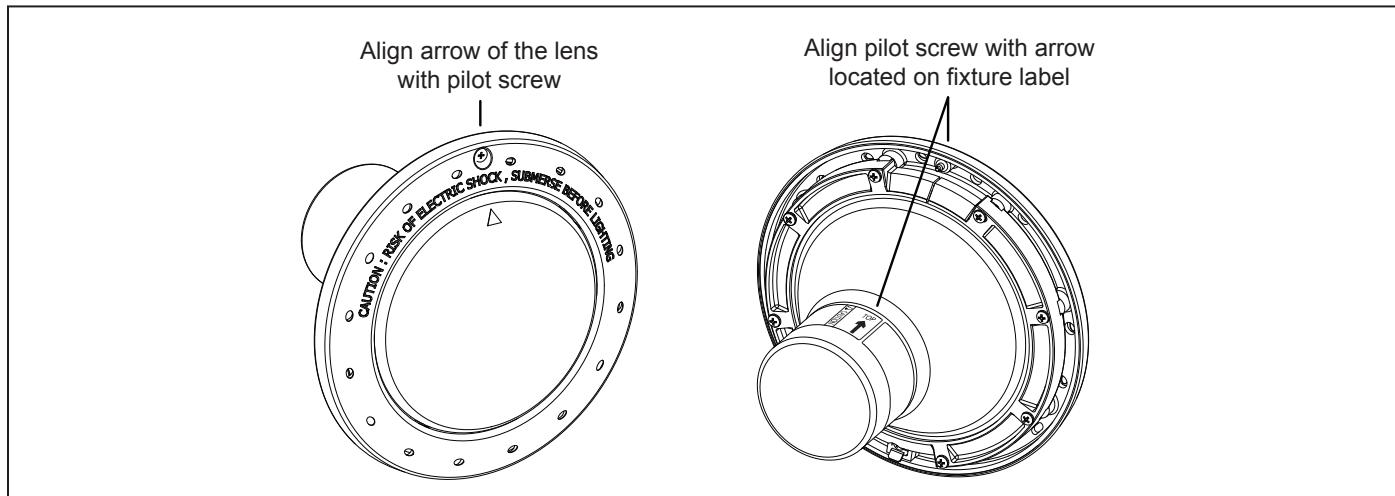

Figure 8. Alignment of the Lens, Face Ring, Housing and Clamps for Pool White Lights
- c. Position the lens and gasket on the fixture. Place the face ring and the top clamp over the lens and align the pilot screw with the small arrow mark on the face of the lens. Note that the small arrow mark on the face of the lens and the pilot screw of the face ring must be aligned with the arrow located on fixture label that reads, "Arrow on this label must line up with the pilot screw on the Face Ring". See Figure 8.
- e. Spread the bottom clamp over the electrical cord and slide it onto the back of fixture to the top clamp. See Figure 8.
- f. Tighten the eight (8) Phillips head screws for pool light or the six (6) Phillips head screws for spa light in alternating cross-pattern. Torque screws to approximately 20 in-lbs. Do not over-tighten.
- a. Coil four (4) feet of cord around the fixture and place the light assembly into the niche.